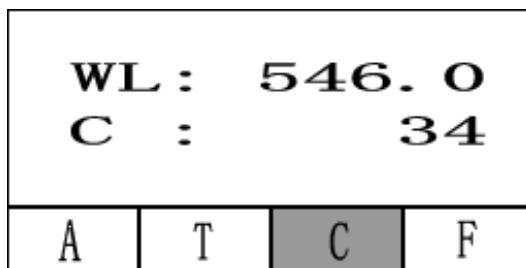

Fig. 4-8
Step 5, Put the “Sample” in the light path, read the Conc. value. (Fig. 4-8)